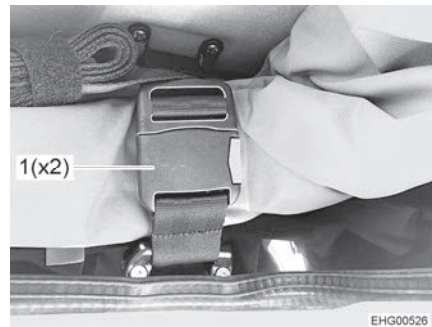

Fig. 87 Belt lock
- Open both belt locks (Fig. 87,1).